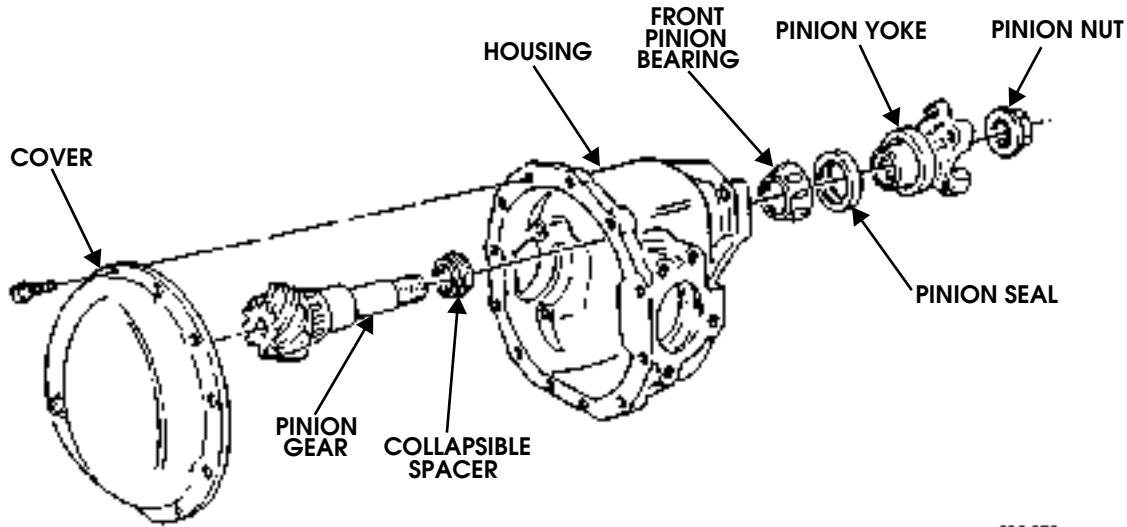

Figure 9-66: Axle Housing
14. Rotate housing 90 degrees. Secure cover to housing with two bolts (Figure 9-66).